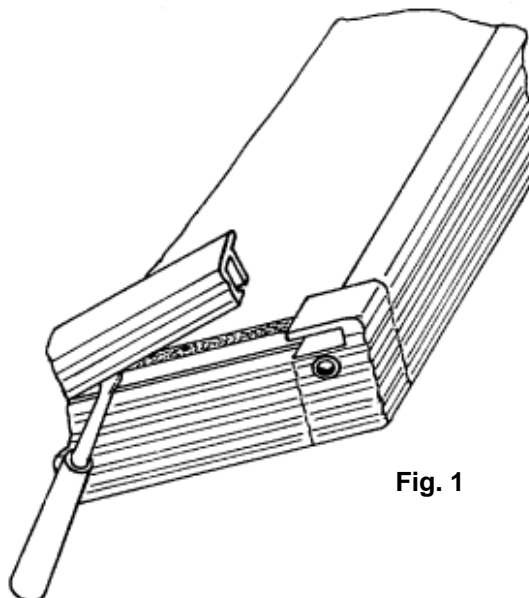

Fig. 1
1. To replace the panel, remove the strip on the lower edge of the door. (Fig. 1)